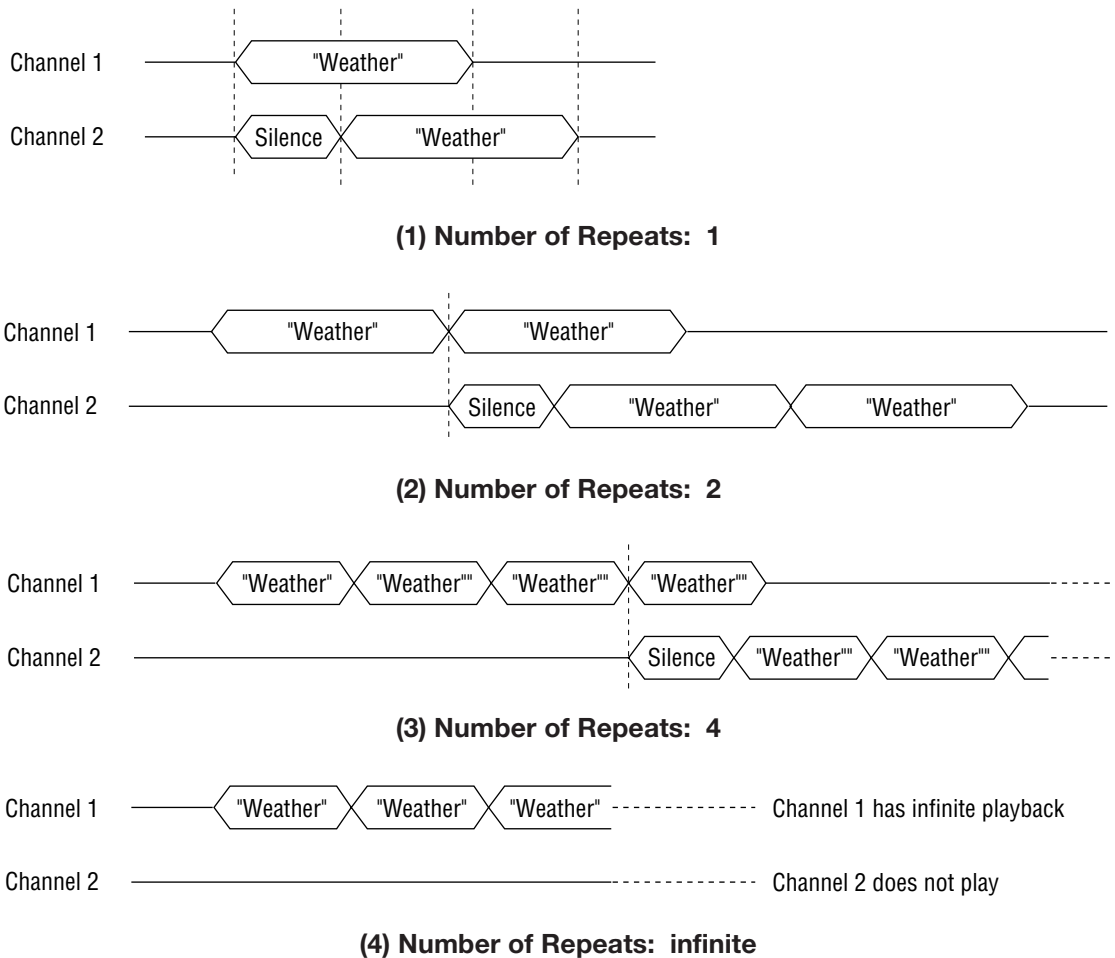

Figure 3 Echo Playback Timing Using Repeated Playback
When using echo play set the number of repeats of the voice control command to 1. If 2, 4 or infinite is set, timing becomes as shown in Figure 3.
When the same channel is selected for playback of the next phrase, playback of the next phrase starts after playback of the 2nd phrase ends. If the channel of the next phrase is different (channel 2), then channel synthesis at the start of the second phrase playback. Echo does not occur under these conditions because channels 1 and 2 are played simultaneously. A silence insertion code must be applied to channel 2 for echo to occur, playback in channel 2 is then delayed with respect to channel 1 which causes echo (see Figure 3). The amount of echo depends on the duration of the silence in channel 2.
When the same channel is selected for playback of the next phrase, playback of the next phrase starts after playback of the 4th phrase ends. If the channel of the next phrase is different (channel 2), then channel synthesis (playback of channels 1 and 2) begins at the start of the 4th phrase playback. Echo does not occur under these conditions because channels 1 and 2 are played simultaneously. A silence insertion code must be applied to channel 2 for echo to occur, playback in channel 2 is then delayed with respect to channel 1 which causes echo (see Figure 3). The amount of echo depends on the duration of the silence in channel 2.
(4) When the number of repeats is set to infinite
The next phrase becomes invalid and is not played regardless of the channel specification (see Figure 3 (4)).